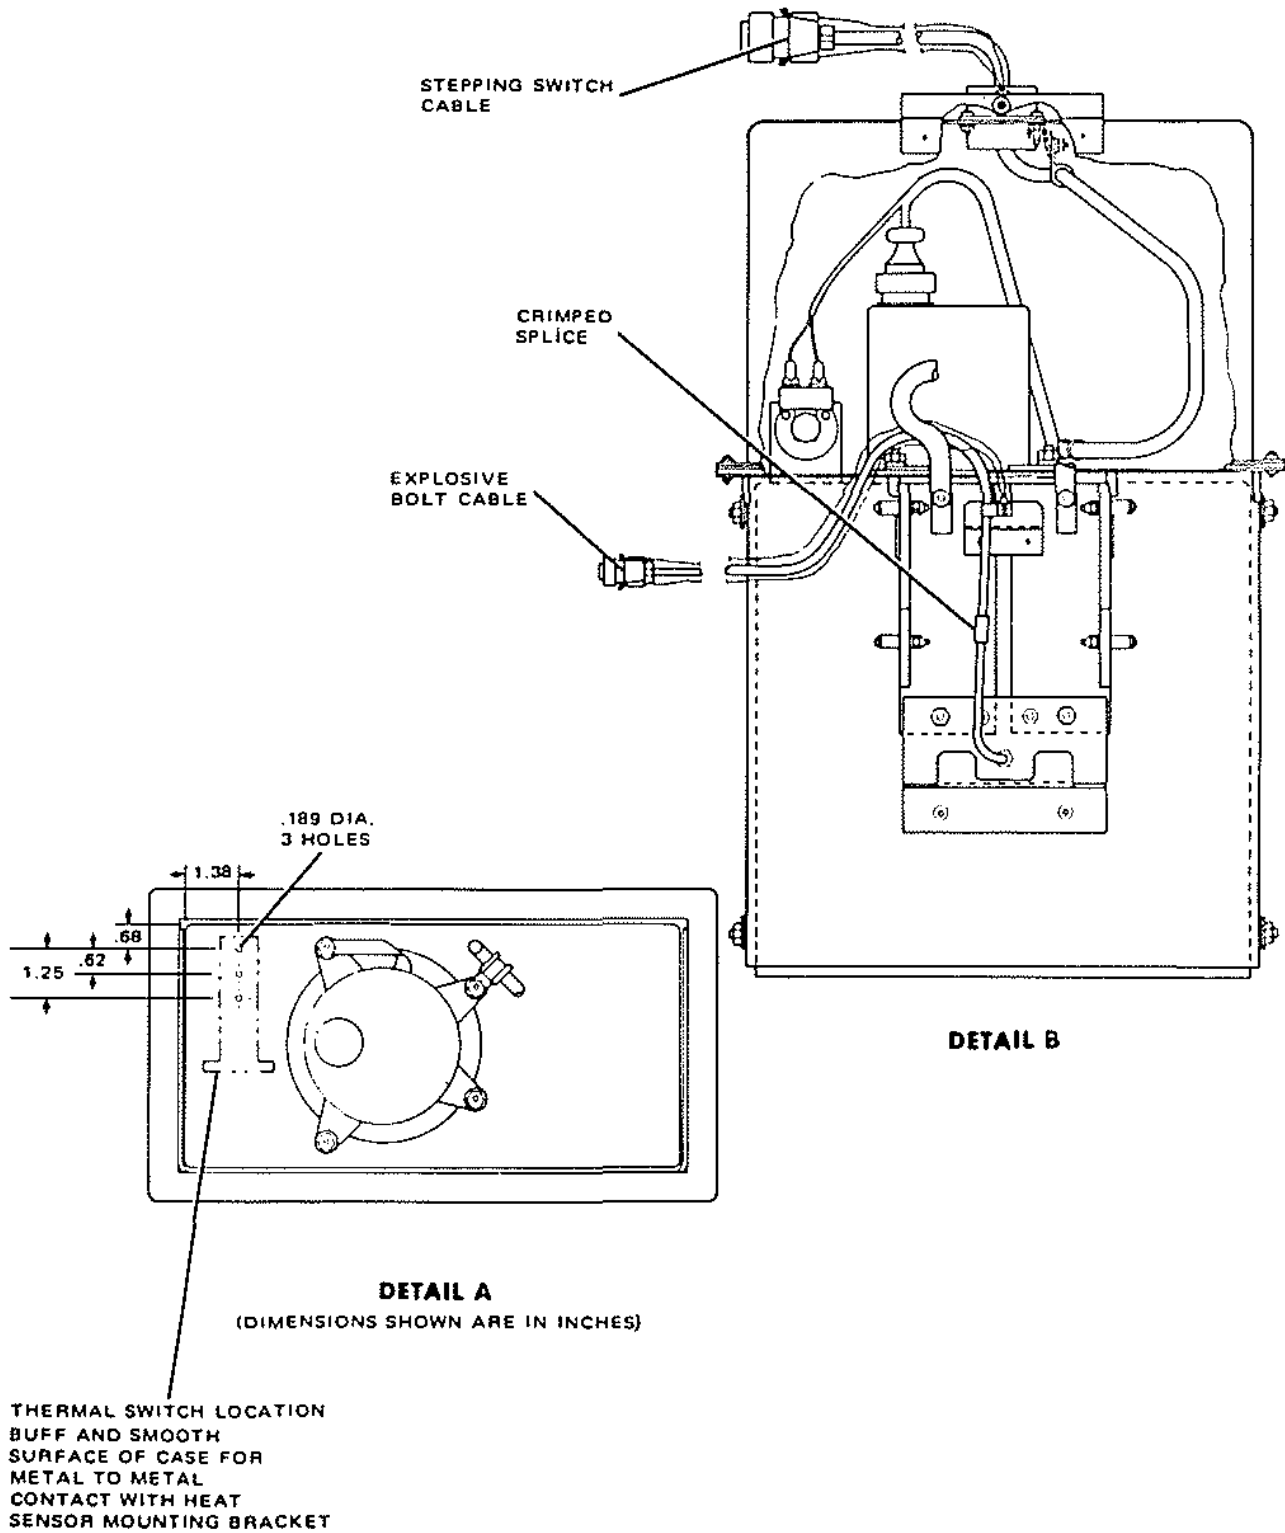

Figure 6-11. Flare Case Assembly Thermal Switch and Cable Locations
**6-52. Case Assembly Reassembly.** A new flare case when received will not have mounting holes drilled for the thermal switch (3, figure 6-10). Drill mounting holes per detail A, figure 6-11. Assemble the flare case as follows:
3. Apply sealing compound (C-73). Class B between flare case and wrap/around adapter (6).
4. Install thermal switch (3) with screws (4). Apply sealing/potting compound, MIL-S-8516 or equivalent to the thermal switch electrical connections, following the procedures and observing the precautions contained in T.O. 1-1A-14.
5. Install stepping switch (7) on flare case with gasket (12) between flare case and stepping switch.
6. Fasten stepping switch (7) in place using screws, nuts, washers (8) and cable clamp (9). Cable should be routed as shown in detail B, figure 6-11.